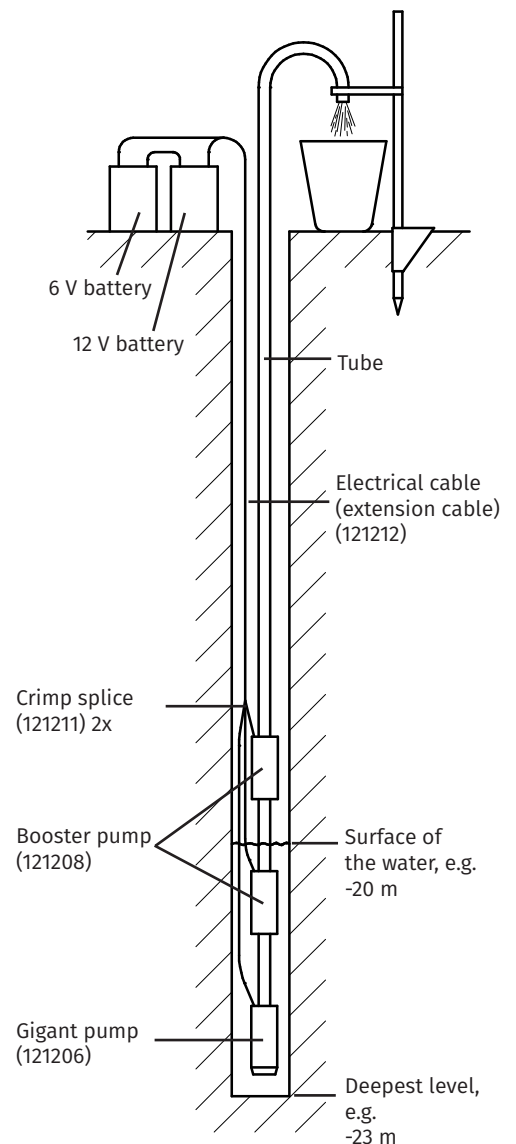

Figure 1
- Booster pumps are most effective if they are installed a short distance on top of one another – ideally within 1 m (see Fig. 1).